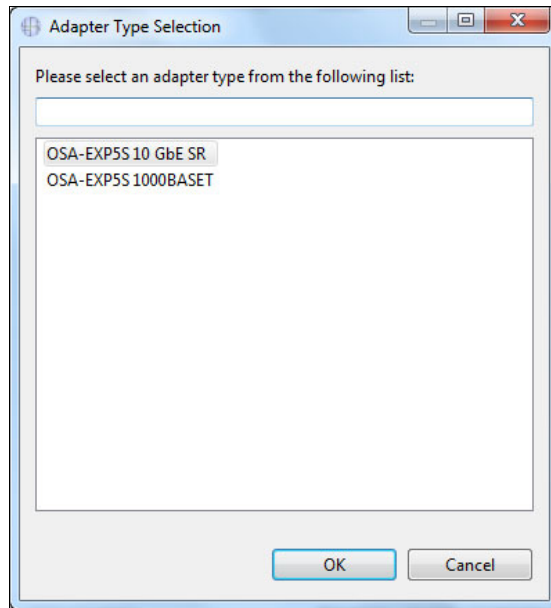

Figure 5-82 CMT - Adapter Type Selection
3. The tool displays a list of available and compatible card types for the CHPID as shown in Figure 5-82. Select an adapter type and click **OK**.